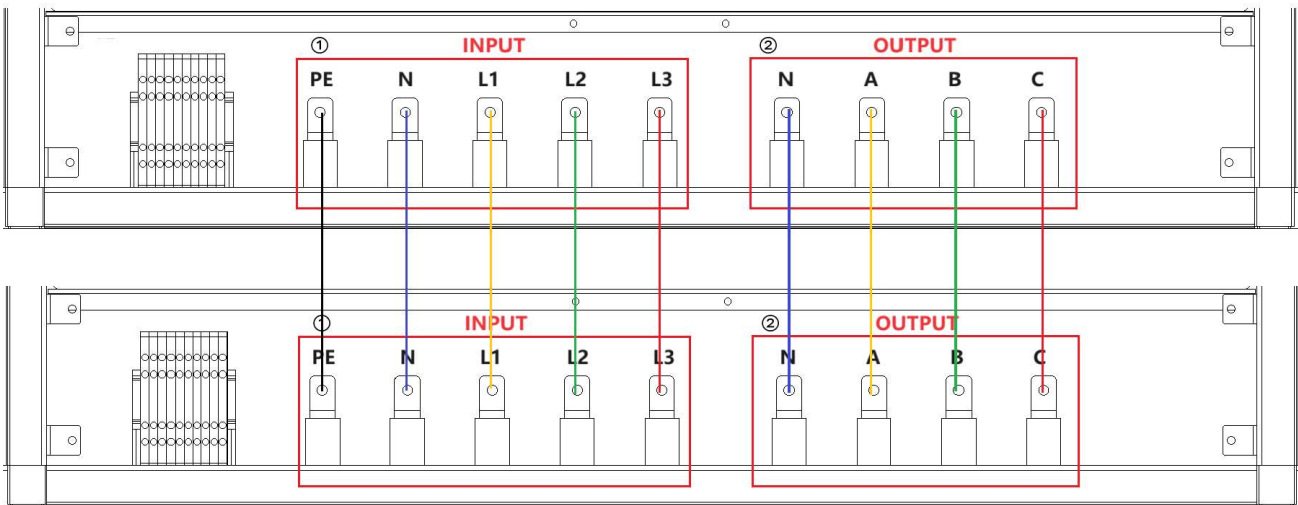

Figure 1-25 Connection of parallel input/output cables
Step 3: Connect the input/output cables of the two units in parallel, as shown in Figure 1-25.